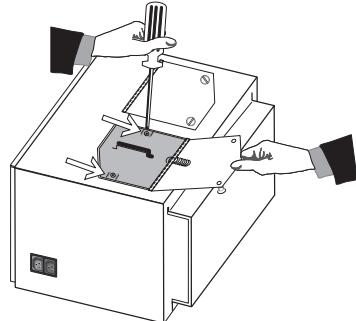
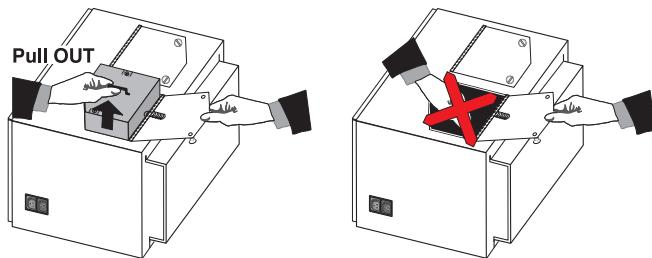

Figure 4.3.
Figure 4.4.
- 3) **REMOVE LAMP:** Loosen the two screws securing the lamp in the lamp module. Holding the lamp door open with one hand, grasp the lamp handle and pull straight up to remove the lamp. (Figure 4.3. and Figure 4.4) *The lamp disconnects from the terminal block much like unplugging something from an outlet.*